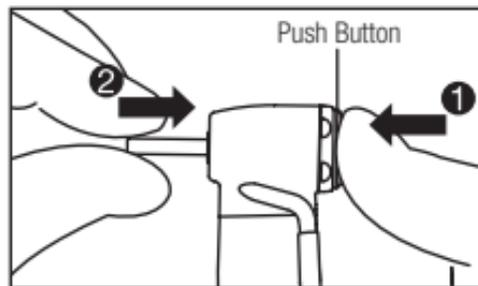

Fig. 3
- 1) Insert the bur into the chuck (Fig. 3).
- 2) Depress the Push Button to open the chuck (①).
- 3) Insert the bur fully into the chuck until it stops (②) then release the Push Button.